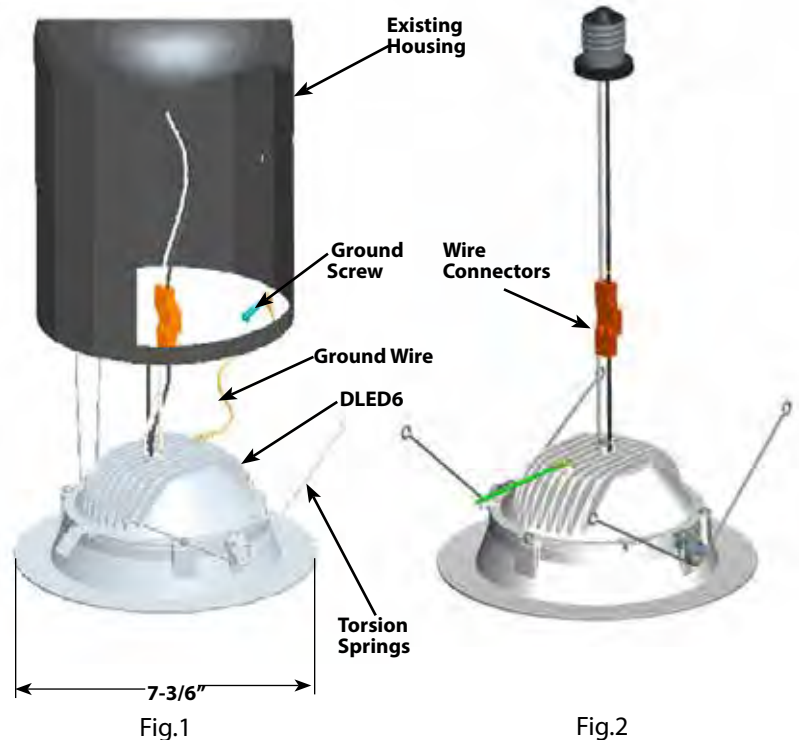

Fig.3
1. Thread the **E26 Socket Adaptor** (Fig.3) connector into the **Existing Housing medium base socket**. (**GU24 Adaptor** available separately Cat. No. SAGU24).